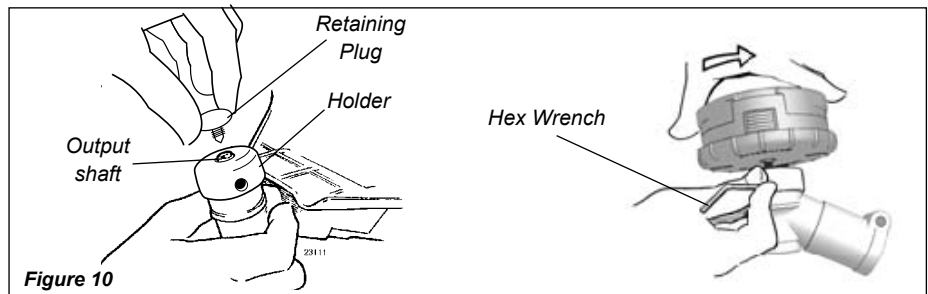

Figure 10
2. Remove and discard the black plastic protective cap from the output shaft. See Figure 10.
3. Rotate the holder until the hole in the holder aligns with the notch on the gear case. Use the long end of the hex wrench to lock the holder and output shaft. See Figure 10.